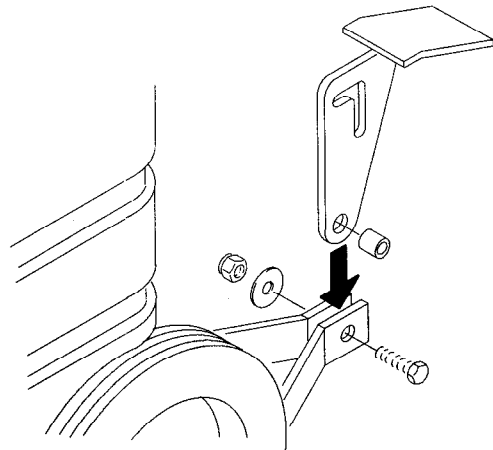

FIG. 3.
8. Insert spacer through hole in pedal as shown. Position pedal between two holes in bracket and slide hex head screw through bracket and pedal. Secure with washer and nut. (*Figure 3.*)